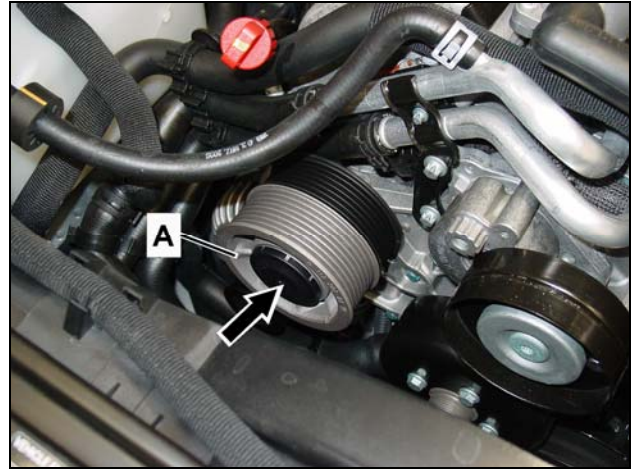

Figure 8 (Shown on model S55 AMG)
- ◆ Remove cap (arrow, Figure 8) on idler pulley (A).